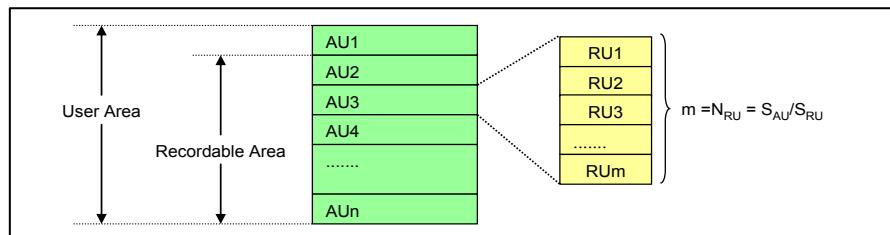

Figure 4-47 : Definition of Allocation Unit (AU)
4.13.1.1 Allocation Unit (AU)
The User Area is divided into units called "Allocation Unit (AU)" (Refer to Figure 4-47). AU is physical boundary in User Area of a card and is not defined by the file system boundary. Each card has its own fixed **AU Size (SAu)** and the maximum AU Size is defined depending on the card's capacity. The host should manage data areas with the unit of AU. If the first AUs in the card contain file system information
4.13.1.2 Recording Unit (RU)
Each AU is divided into units called "**Recording Unit (RU)**" (Refer to Figure 4-47). The unit of **RU Size** (S_{RU}) is 16KByte. The RU Size is a multiple of 16KByte and shall not span across an AU boundary.